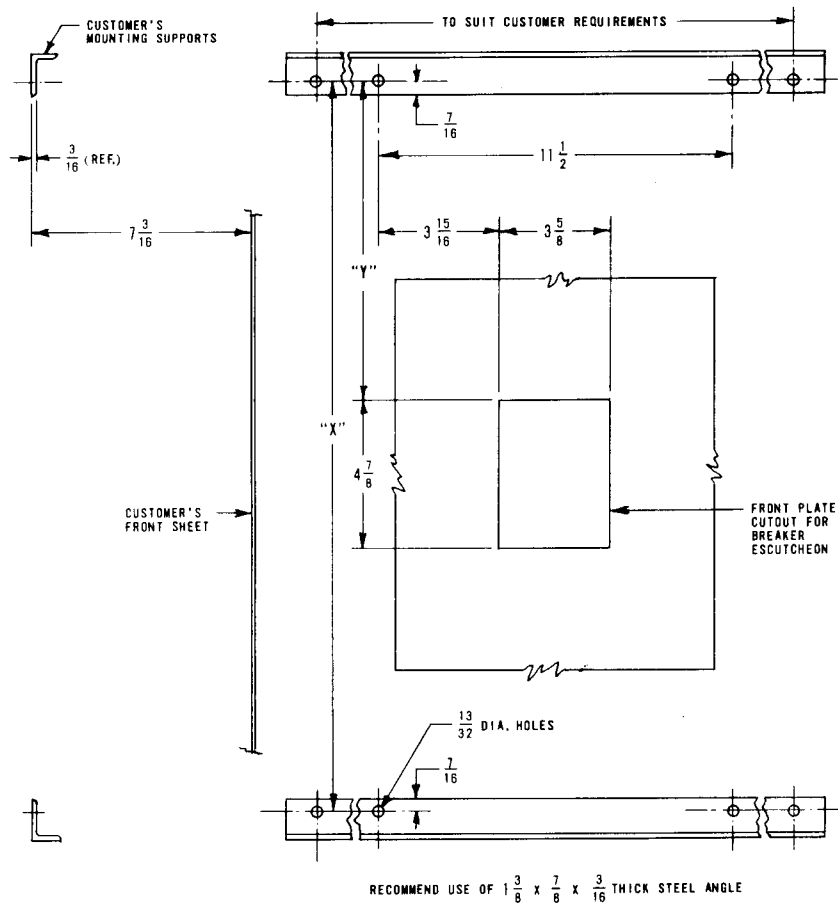

Fig. 4 — Mounting Supports & Front Plate Drilling
1. Drill required holes and provide escutcheon cut-out in accordance with mounting arrangement desired (reference Fig. 4) in support angles and front sheet supplied by customer.